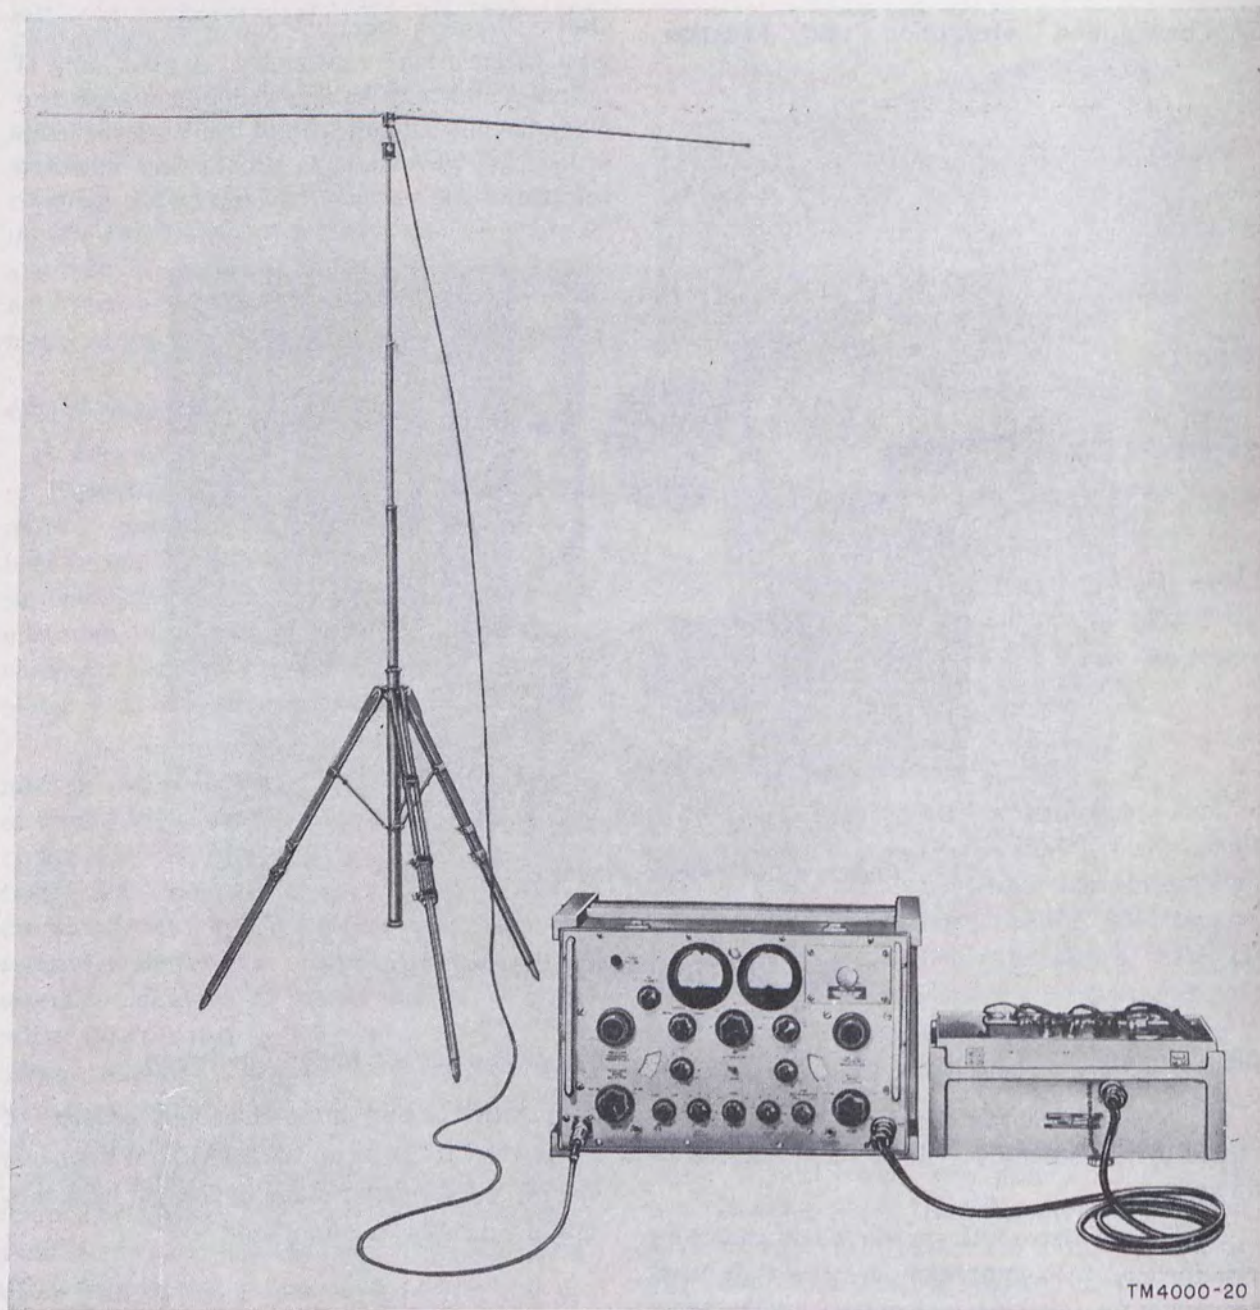

Figure 37. Absolute field-strength meter.
c. To determine the best site for a transmitter, move the field-strength meter from place to place, and compare the readings at each location. Place the field-strength meter in the desired receiver location and move the transmitter, if portable, to produce the best results. An absolute field-strength meter is shown in figure 37.
a. *General.* A large number of communication sets used in the military forces are composed of several basic components connected together with multiconductor cables to form an operating unit (fig. 37). These cables conduct signal, power and control voltages between the various units that form the complete installation. Sometimes cable in vehicular installations are difficult to inspect because they are inaccessible, having been built into the vehicle at the time of manufacture. Cable troubles in this type of installation are often difficult to find and spare cables of sufficient length are not always available. A radio set may have a transmitter that is being keyed constantly, but the key is not being operated. The trouble could be caused by a shorted capacitor across the keying conductors, or the conductors could be shorted internally.